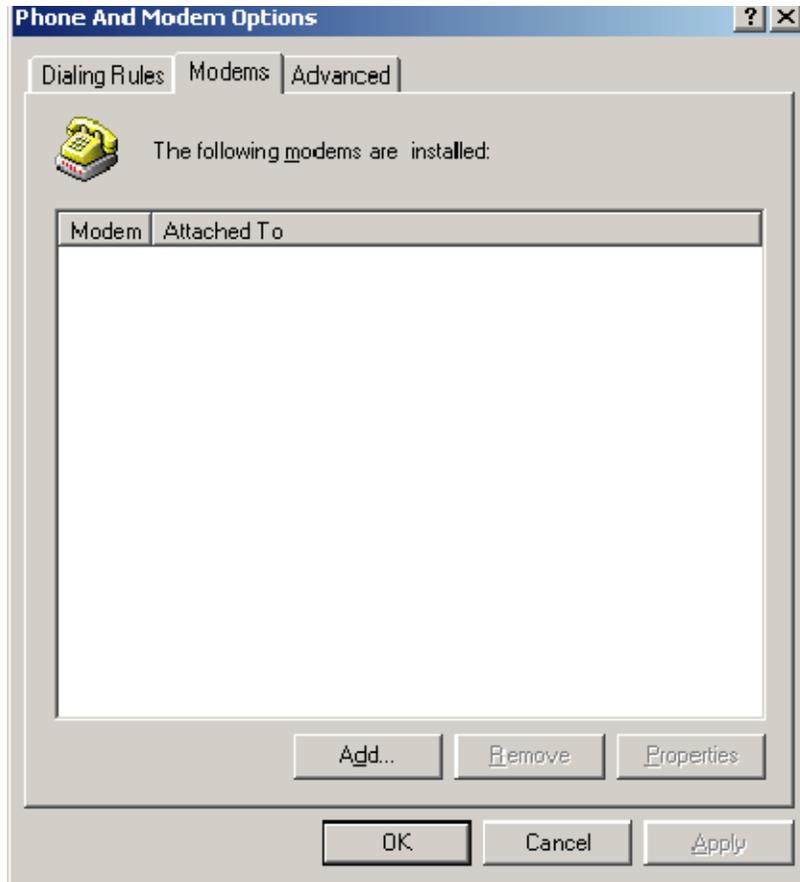

Figure 133: Phone and Modem Options window
1. Open Control Panel > Phone and Modem Options. Click the Modems tab, if not selected. See Figure 133: Phone and Modem Options window on page 202.